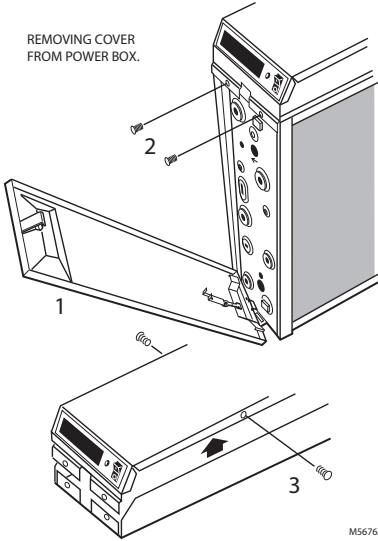

Fig. 1. Remove cover from power box.
- ❑ Open access door. See Fig. 1.